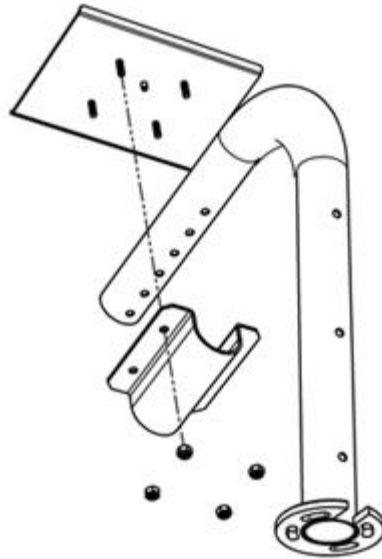

Figure 2.9. Attaching/Removing the Interface Module to the Interface Module Shelf.
2. Remove the shelf tube clamp (see Figure 2.9) keeping the nuts on hand to install the appropriate shelf. Remove the Display Shelf from the support tube and place it to one side.
3. Place the Tablet Shelf on the arm assembly with the shelf tube clamp positioned on the other side of the support tube lining up the screw holes with the screw holes in the Atomlab Tablet Shelf. Put the nuts onto the posts and tighten them (see Figure 2.9).